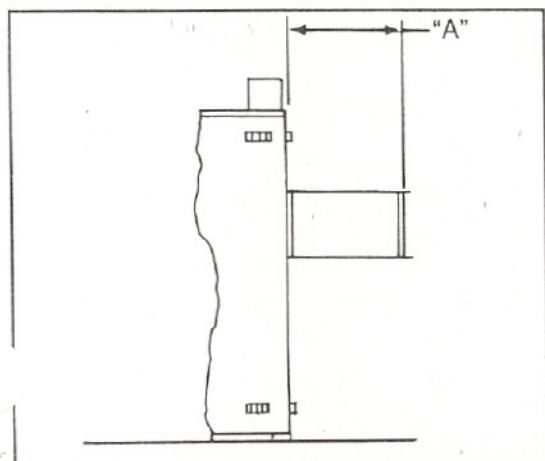

Figure 5
If the wall thickness is 4 1/2", no other sections are needed. For thicker walls, slide the next section onto the first section until proper length is attained as shown in Figure 5 and Table 1. A 2" overlap must be maintained, and the pipe sections must be drilled and screwed in (3) places. Proceed to STEP 6.